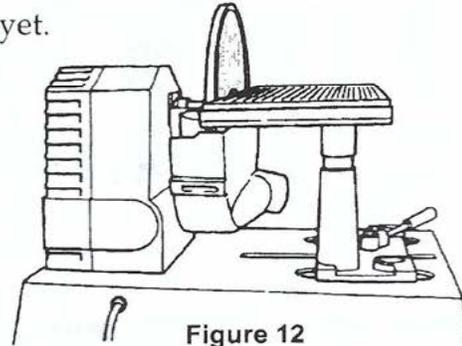

Figure 12
1. Mount the extension table in the carriage of the Power Station. Make sure the wide side of the extension table is toward the Power Station spindle, as in Figure 12. **DO NOT** lock the extension table in place yet.
5. Move the Power Station's carriage and the extension table toward the Conical Sanding Disc. Adjust the extension table's top surface to be about 3" below the top of the Conical Sanding Disc, and the table's edge  $1/8$ " to  $1/4$ " from the abrasive surface. Lock the carriage and the extension table. See Figure 12.